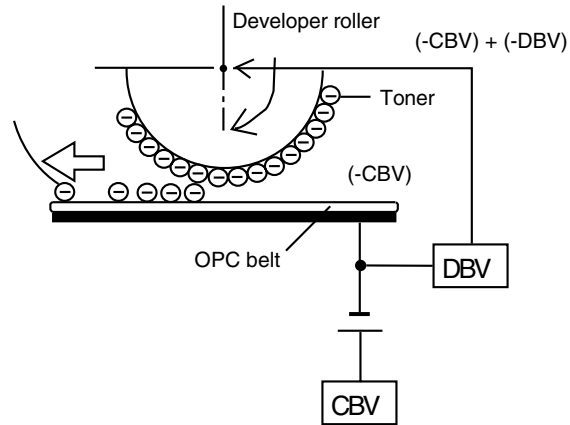

Fig. 4-15
- ii) The developer roller has been biased to the potential $-DBV(V)$. Fig.4-15 describes the relationship established between the potential of the toner, the potential $-V_o(V)$ at the non-exposed area of OPC belt and the potential $-VR(V)$ on the exposed area of the OPC belt.